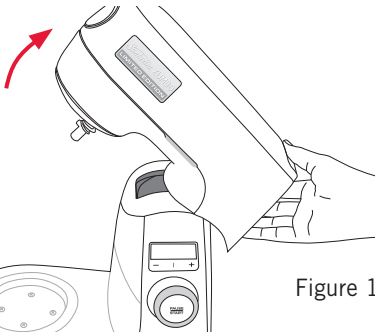

Figure 1
1. Press the 'head release' button, located at the rear of the mixer head. This will release the mixer head out of its locked position. Ease the mixer head backwards until it locks into its tilt position (Fig. 1).
8. Press the 'head release' button and ease the mixer head back until it is locked into the tilt back position (see Figure 1 on page 6).
1. Remove the storage cover from the front of the mixer head by pulling down on the cover. (See Fig. 1).